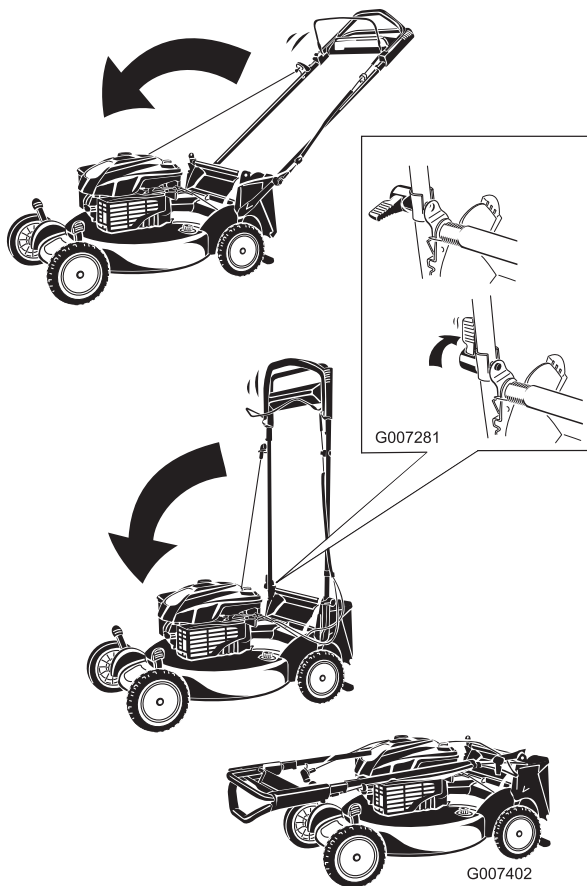

Figure 46
1. Rotate the handle forward (Figure 46).